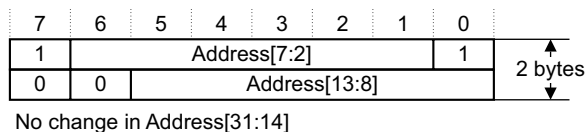

Figure 7-17 Alternative encoding of normal ARM branch with no change in address bits [31:14]
- Figure 7-17 on page 7-316 shows the trace packet for a branch in ARM state when there is no change in bit [31:14] of the address